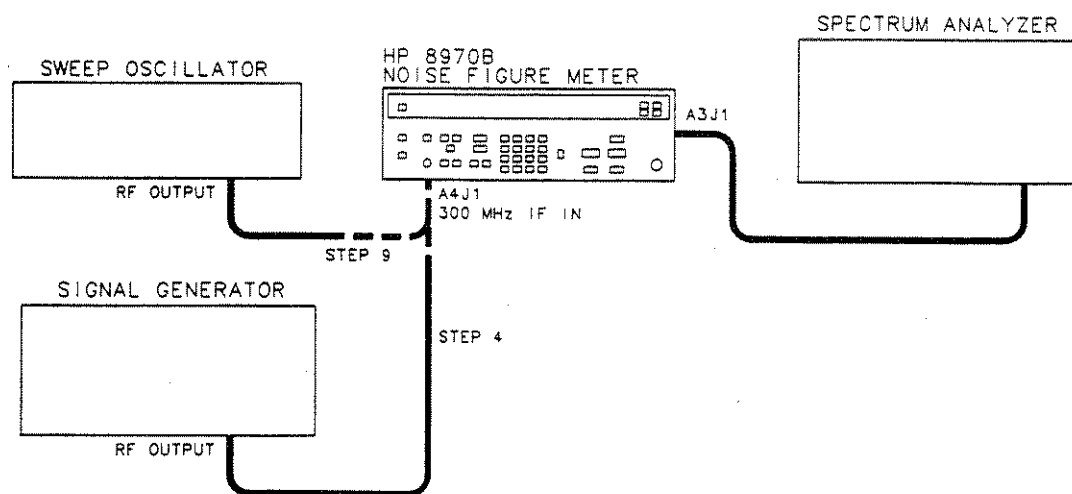

Figure 5-2. 300 MHz IF Bandpass Filter Adjustment Setup
4. Connect the equipment as shown in Figure 5-2. Turn on the equipment. Note that an error display on the Noise Figure Meter is normal when the signal path is broken.
9. Disconnect the signal generator, and connect the sweeper to A4J1 (300 MHz IF IN). (See Figure 5-2.)